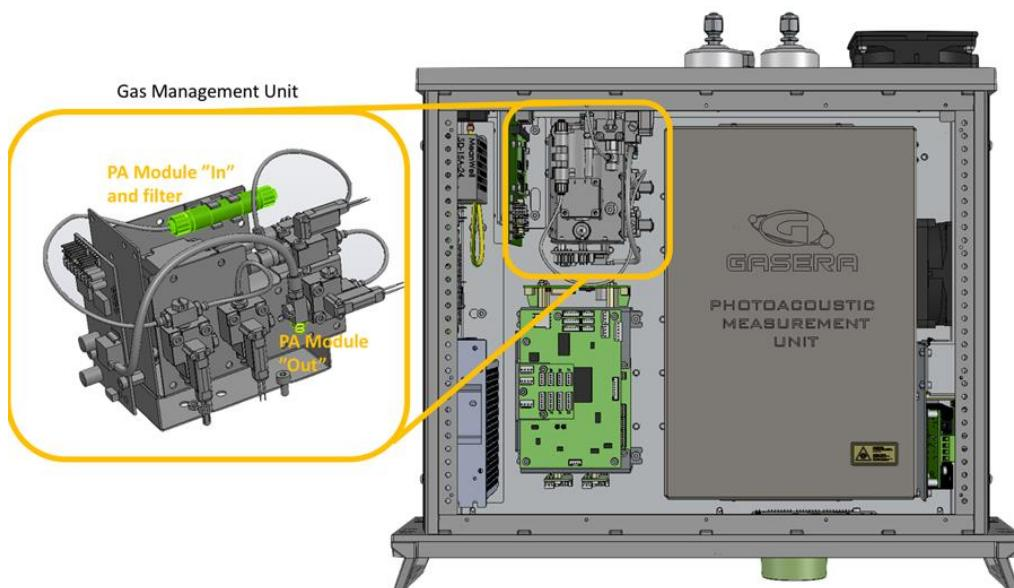

Figure 47. PA Module gas tube connections to Gas Management Unit.
2. Disconnect the PA Module gas tubes from the Gas Management Unit side (GMU) as in Figure 47, see also